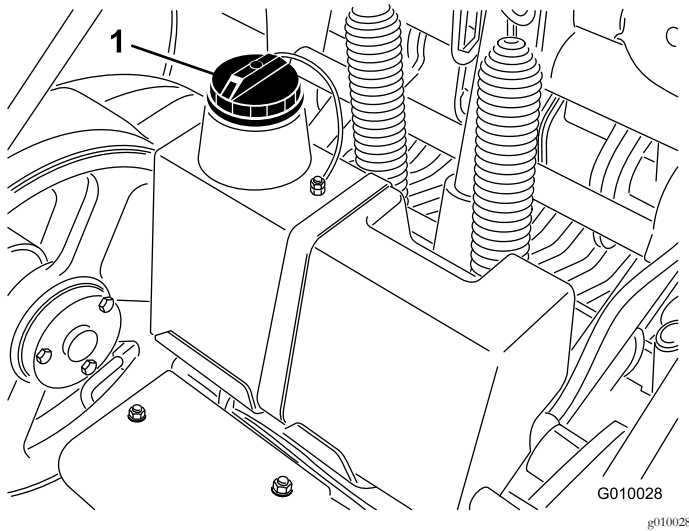

Figure 18
3. Clean the area around the filler neck and the cap of the hydraulic tank (Figure 18). Remove the cap from the filler neck.